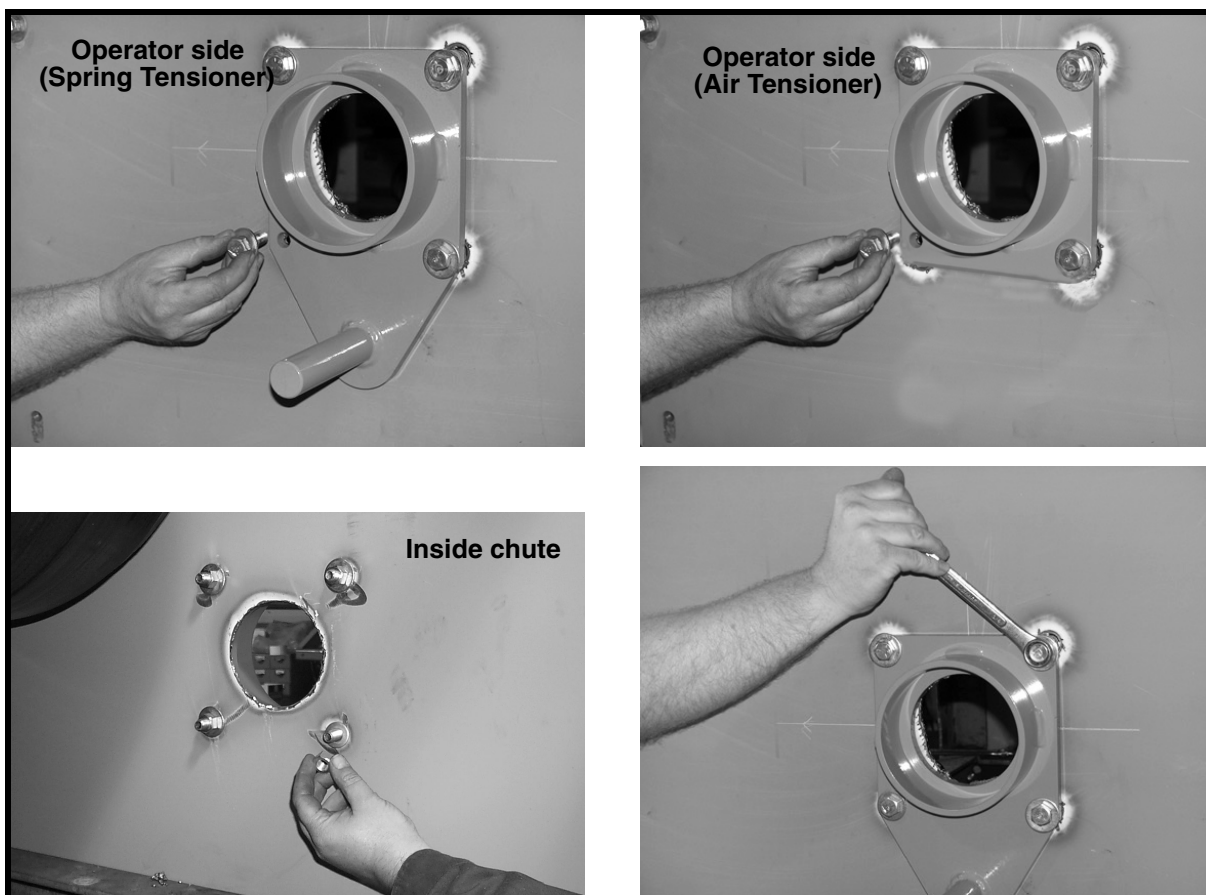

Figure 2. Installing Mount Plates
2. Install tensioner mount plate as shown in Figure 2.